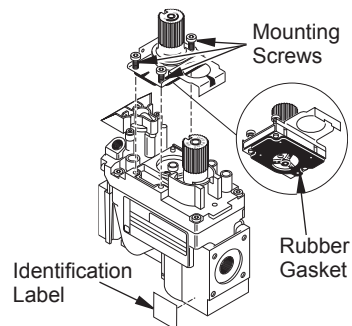

Figure 36- Installing New Parts for Gas Control Valve Conversion
2. Insure that the rubber gasket is properly positioned on the new pressure regulator assembly. Install new pressure regulator assembly to valve using new mounting screws supplied with kit. Tighten screws securely (approximately 25 in/lb). See Figure 36.
3. Install the identification label enclosed with gas valve regulator to the valve body where it can easily be seen (see Figure 36).